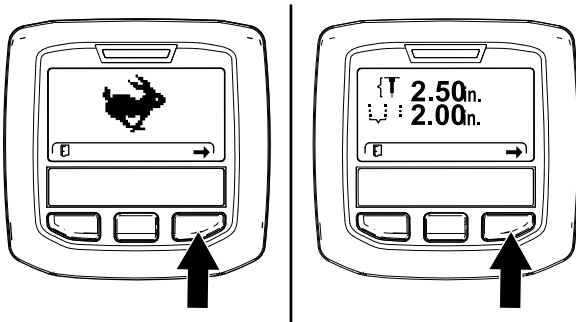
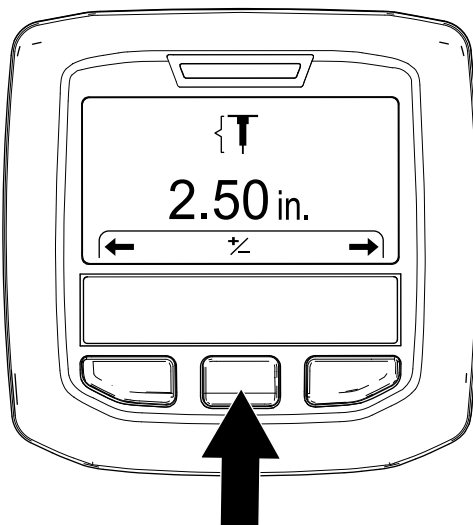

Figure 51
Figure 52
3. Press the right InfoCenter button until the Setting the Hole Depth screen displays (Figure 51 and Figure 52).